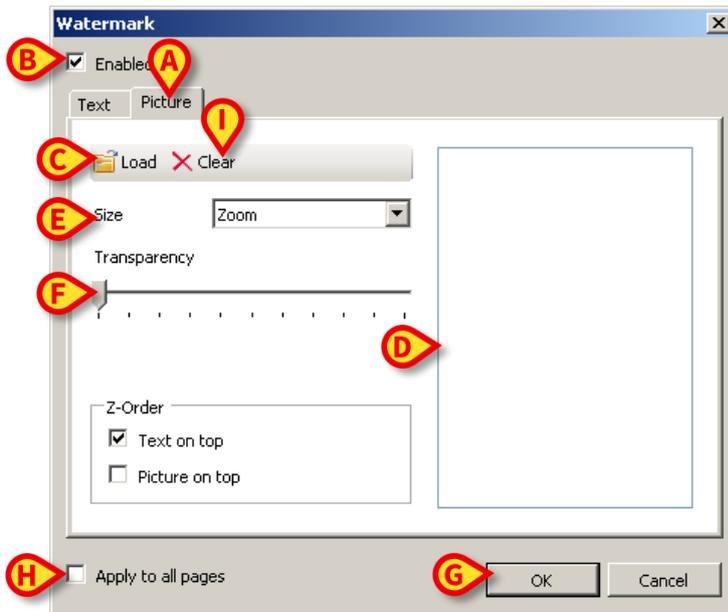

Fig 27
- Click the “**Picture**” tab indicated in Fig 27 **A**
The following window is displayed (Fig 27).
- Ensure that the “**Enabled**” checkbox is checked (Fig 27 **B**). If not, the window’s contents cannot be edited
- Click the “**Load**” button indicated in Fig 27 **C**
The image is displayed in the area indicated in Fig 27 **D**.
- Use the “**Size**” drop-down menu to set the size of the image (Fig 27 **E**)
- Use the “**Transparency**” cursor to set the transparency level of the watermark image (Fig 27 **F** - maximum transparency when the cursor is on the left)
- Click the **Ok** button (Fig 27 **G**). The watermark image is this way inserted
If the “**Apply to all pages**” checkbox is selected (Fig 27 **H**) the watermark is applied to each page in the document, otherwise it is applied only to the current page.
- Click the “**Clear**” button indicated in Fig 27 **I**